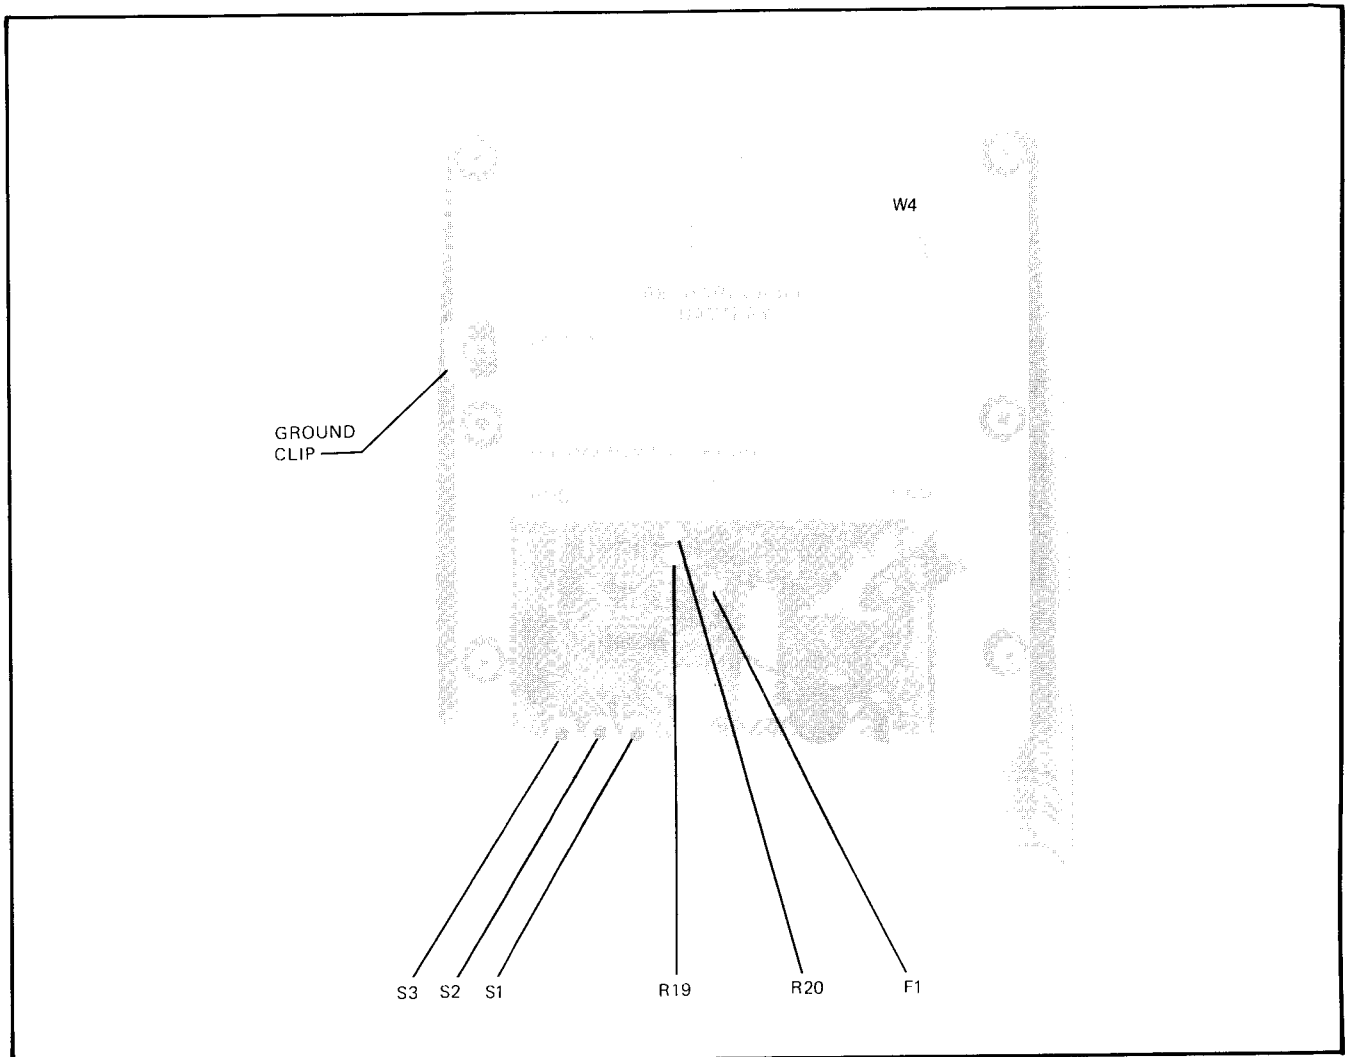

Figure 7-3. Option 002 Battery Charger Adjustment Locations
For the A6 Assembly, use *Tables 7-2* and *7-5* and *Figures 7-3* and *7-5*.
For the A6 Assembly, use *Tables 7-2* and *7-5* and *Figures 7-3* and *7-5* except:
- a. Refer to *Figure 7-3*.